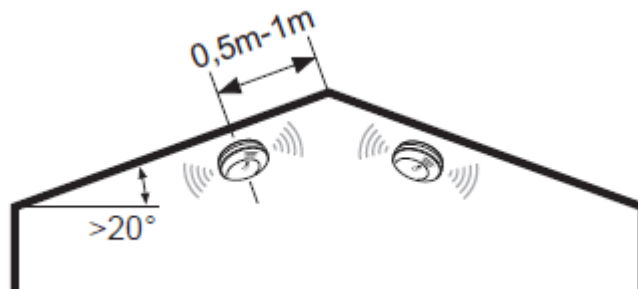

Figure 1: Mounting the smoke alarm detector on the roof slope
- *Attic space:* With the attic space a distance should be kept to the roof point of at least 50 cm (see Figure 1).